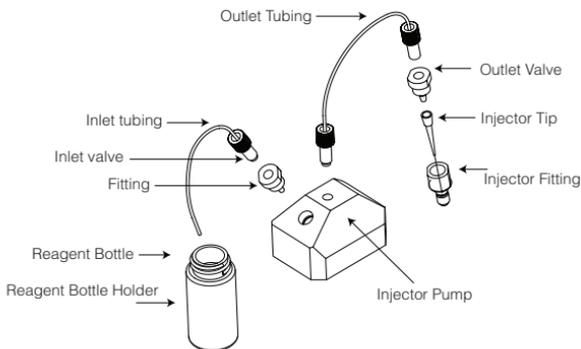

Figure 16. The injector system.
1. Disconnect the valve from tubing by twisting in a counterclockwise direction (Figure 16).